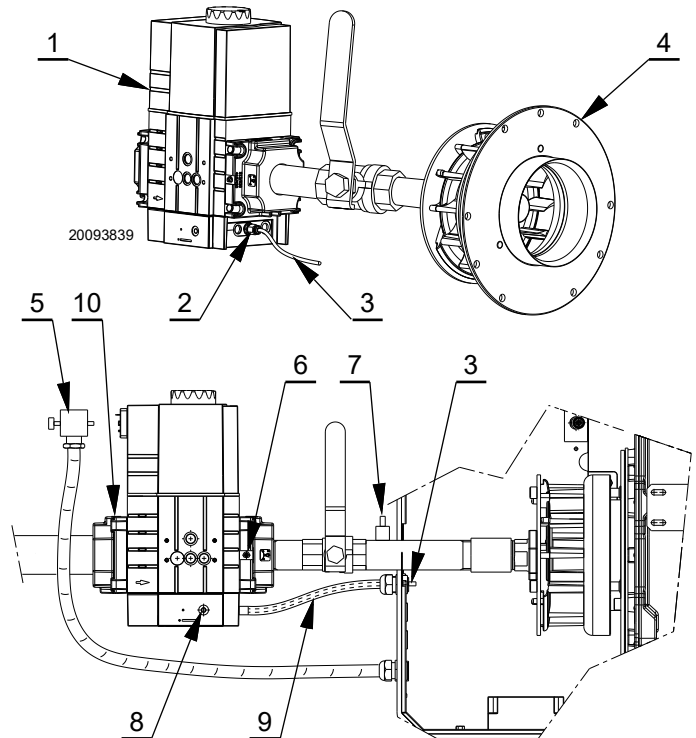

Fig. 170
- The burner proceeds with the ignition phase. If at the end of the safety time the flame does not appear, the burner restarts in automatic mode (it carries out a maximum of 3 attempts). The indications of the sequence of the phases on the display continue to blink to signal that we are still in the start-up procedure (manual operation). If ignition is still not achieved, it may be that gas is not reaching the combustion head within the safety time period of 3 seconds. Turn the screw V1 of the gas valve lightly towards the “+” sign (Fig. 170 at page 57). If, however, at the end of the safety time the burner starts but then switches off, the burner goes into lockout and the display shows **Loc:7** blinking (disappearance of the flame when in operation). Press “i/reset”, the display shows **400:Set**. Exit the manual operation mode by several times pressing “ESC” (press the keys “+” and “-” contemporaneously). The display shows **Loc:7** fixed. Press “i/reset” to unblock the LME7.
- Turn the screw V1 towards the “+” sign (Fig. 170 at page 57).
- Check the appearance of the flame, if possible, or the value of the CO and CO₂ to understand whether the burner has been sufficiently calibrated (first maximum calibration). If necessary use the screw V2 of the gas valve (turn towards the “+” sign to increase the gas, towards the “-” sign to decrease the gas) (Fig. 170 at page 57).
- Check the appearance of the flame, if possible, or the value of the CO and CO₂ to understand whether the burner has been sufficiently calibrated (first maximum calibration). If necessary use the screw V1 of the gas valve (turn towards the “+” sign to increase the gas, towards the “-” sign to decrease the gas) (Fig. 170 at page 57).
- to increase the gas delivery and the CO₂: turn the V1 screw towards the "+" sign (Fig. 170);
- to reduce the gas delivery and the CO₂: turn the V1 screw towards the "-" sign (Fig. 170).
Key (Fig. 170)